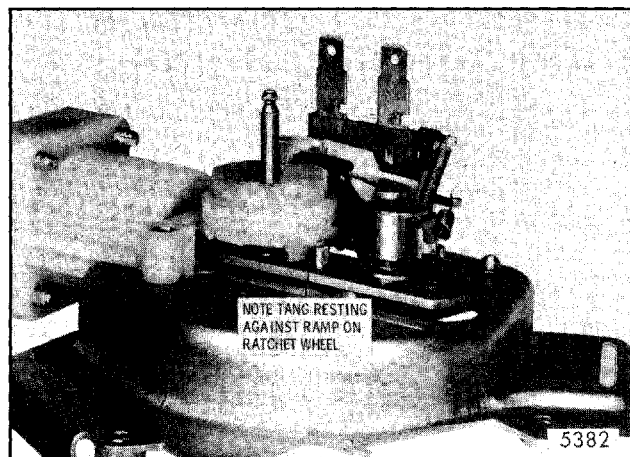

Fig. 2-127-Ratchet Wheel-Ramp
Refer to Figure 2-127 and note that a tang on the piston actuator plate is resting against a ramp on the lower surface of the ratchet wheel. This holds the piston actuator plate in a lock- out position. With actuator plate in this position and the wiper running, the cam-follower pin merely moves back and forth in the elongated slot of the piston actuator plate and no pumping action can occur.
The ratchet wheel pawl, which is actuated by the same cam-follower pin that moves the piston actuator plate, begins to rotate the ratchet wheel. Rotating the ratchet wheel one tooth moves the ratchet wheel ramp away from the tang of the piston actuator plate (Fig. 2-127), permitting the piston
2. The tang on the piston actuator plate is resting once more against the ramp on the lower side of the ratchet wheel (Fig. 2-127).